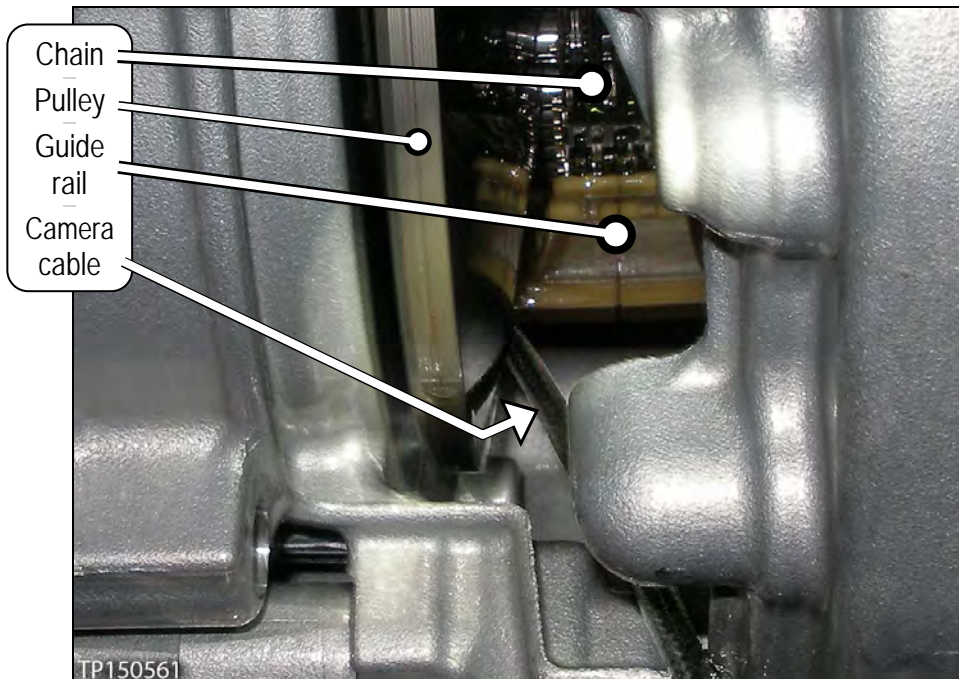

Figure 6C
- Figure 6C shows where to insert the camera lens on the passenger side of the chain.